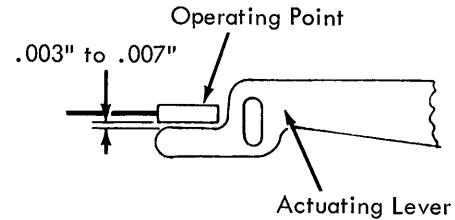

FIGURE 64. Mode Contact Actuating Lever SHIFT MECHANISM
12. Position the contact bracket for a clearance of .003" to .007" between the operating strap and actuating lever (Fig. 64).